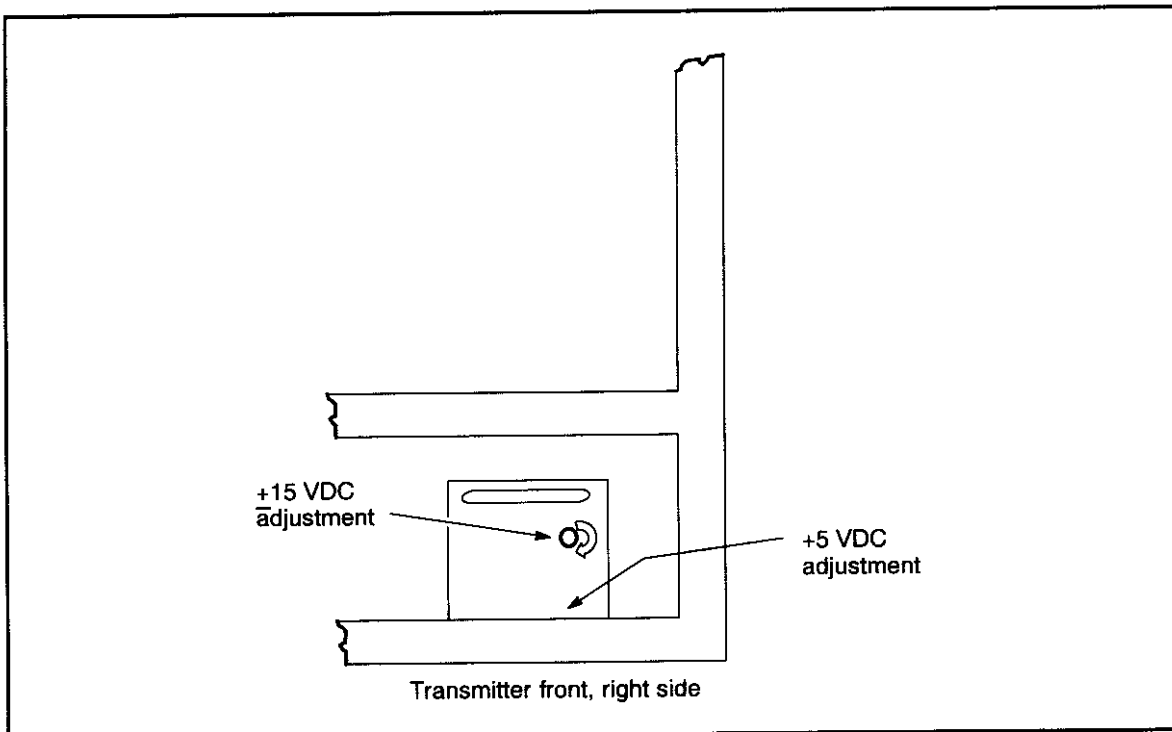

Figure 43. Transmitter +15 VDC Power Supply.
- If necessary to adjust the output level, use Figure 43 to locate the voltage adjustment points.